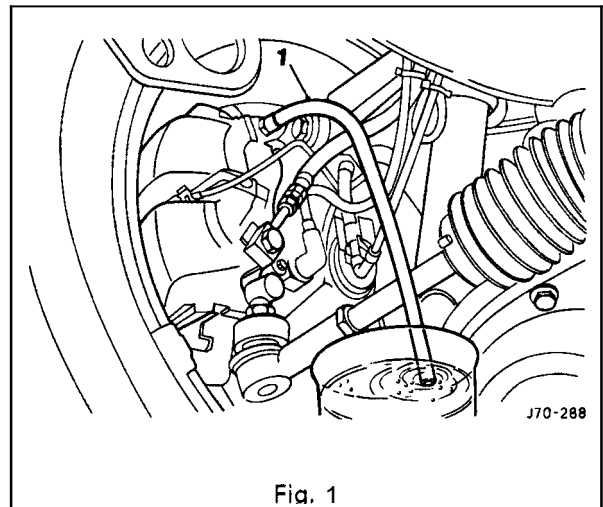

Fig. 1
- Connect the bleeder bottle tube to the relevant front caliper (see 'note' above) bleeder screw (1 Fig. 1) and open the screw.
- Repeat this procedure for the remaining three calipers. (1 Fig. 1) shows the bleeder screw of the rear left caliper.